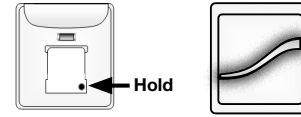

Fig. 12
- A. Press and hold the program button on the back of the remote until the LED stops flashing. The LED will flash green, amber, red, and then turn off (about 15 seconds). (Fig. 12)